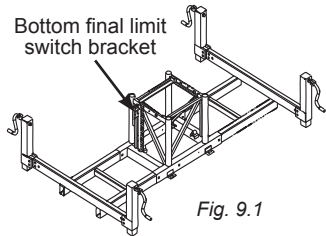

Fig. 9.1
- 1- Loosen the bolt of the bottom limit switch bracket located on the half mast (bottom mast section) attached to the base pedestal (fig. 9.1) and lower the switch bracket all the way down.